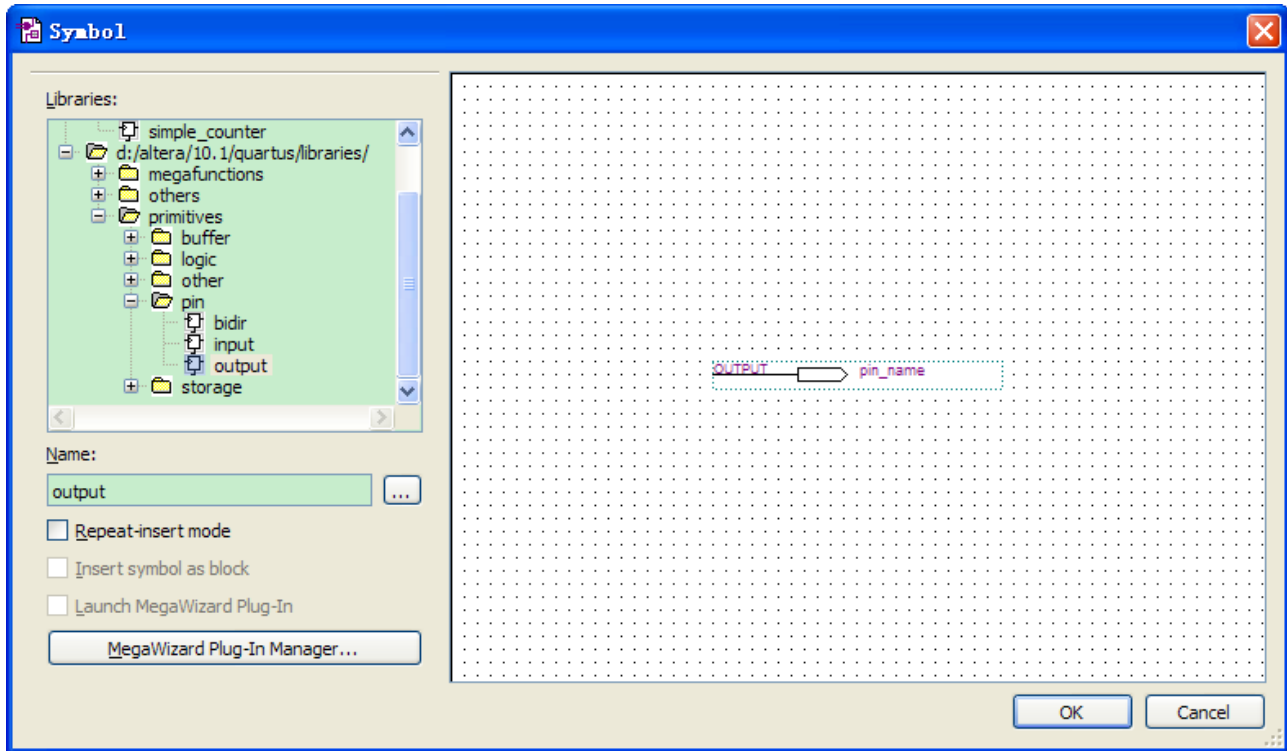

Figure 6-38 Choose output pin
17. Under Libraries, select **quartus/libraries > primitives > pin > output**, as shown in **Figure 6-38**.